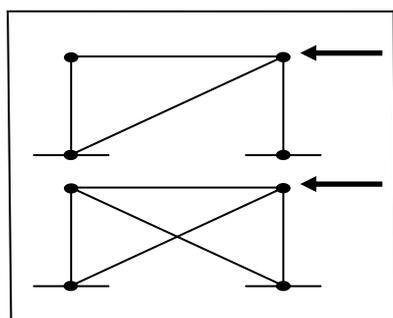

Figure 2 – Triangulation
- **Triangulation** – additional interconnecting diagonal components (bracing) connecting the columns and beams, which transfer the loads to the ground (See Figure 2).